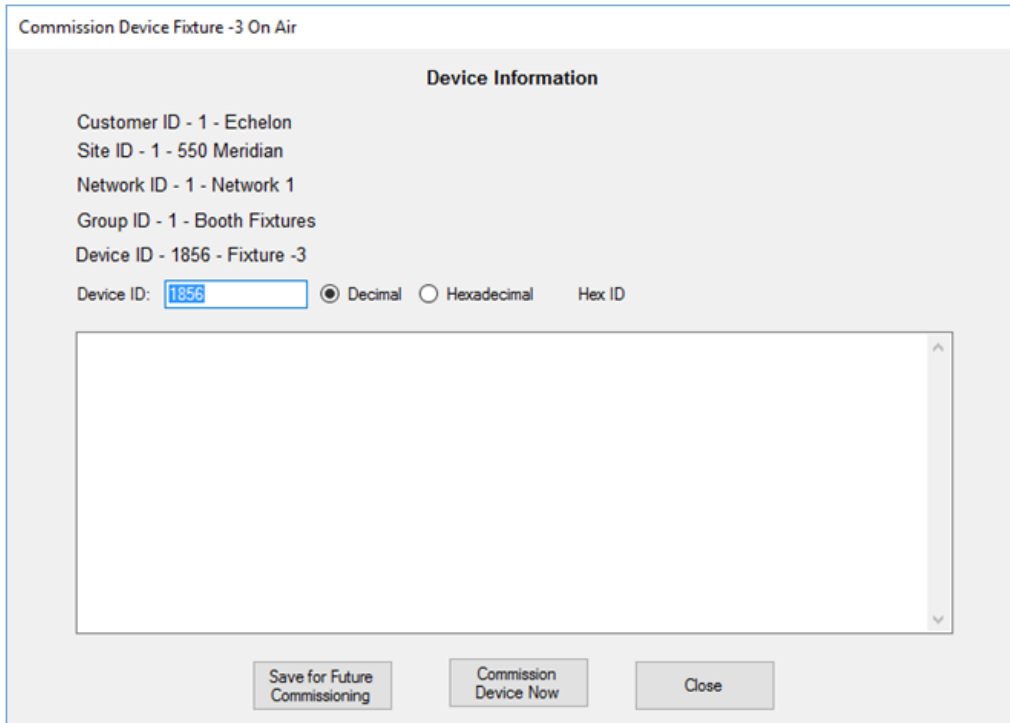

Figure 32. Device Information
3. Enter the DeviceID associated with the selected device from the Commissioning Ledger in the Device Information screen. The Device Information Screen is shown in Figure 32.